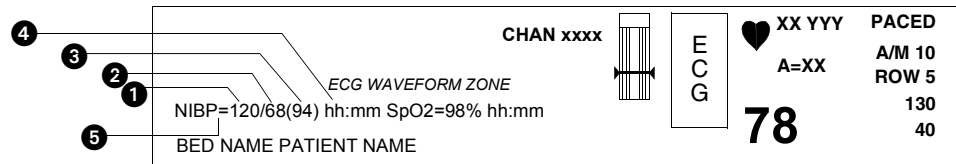
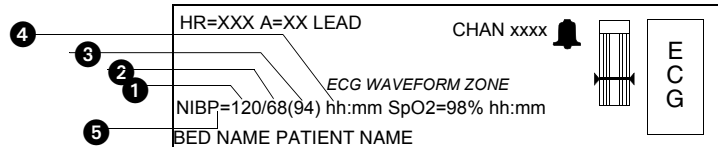

Figure 4-3: Display Zone — Full Screen
Figure 4-4: Display Zone — Split Screen
- 1 Configure 91343 DIP switch 5 to ON (refer to *Figure 4-4* on page 4-7)
9. The 91343 transmitter must be configured for use with the 90217 ABP monitor by opening the battery compartment door, removing the battery, and setting DIP switches 5 ON and 8 OFF. Refer to *Figure 4-4* on page 4-7.
Figure 4-3 and *Figure 4-4* on page 4-7 illustrate typical NIBP displays. You can view NIBP readings from any Ultraview bedside or central monitor on a network. NIBP displays on a split screen central monitor appear in a format slightly different from that of bedside or full screen central monitors. Depending on the patient monitor's display size, the title "NIBP" may not appear.
When any NIBP alarm is detected, the displayed parameter value (refer to *Figure 4-3* and *Figure 4-4*) will blink yellow if the alarm priority is Low or Medium, and will blink red if the alarm priority is High. This is done independently of any other ECG or SpO2 alarm indications.